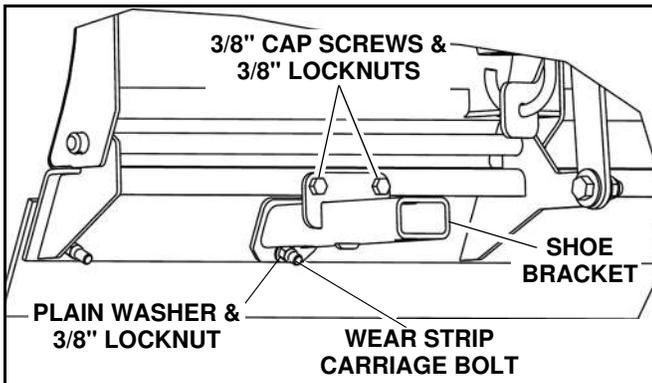

Figure 1
4. On the drivers side of the blade, locate two empty holes on the top rear of the bottom rail. If there is a wearstrip carriage bolt centered between the two empty holes remove and discard the nut. Then proceed to step 7. Remove the nut from the carriage bolt and discard (See Figure 1).